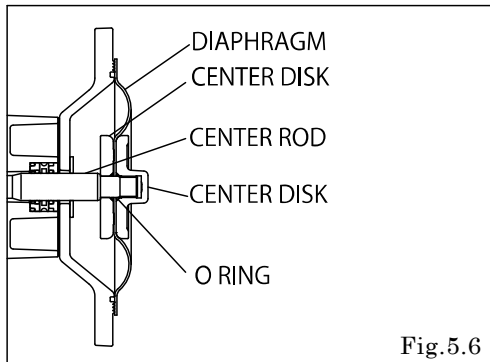

Fig.5.6
- For the model with PTFE diaphragm, put the O rings into both side of the diaphragms. (cf. Fig.5.6).